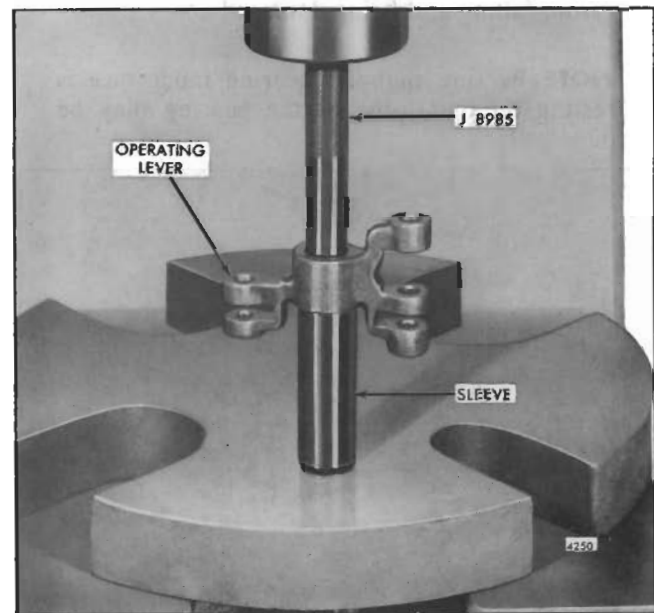

Fig. 16 - Removing Operating Lever Needle Bearings
m. If removal of the needle bearing is necessary, support the control link operating lever on a sleeve and rest the sleeve on the bed of an arbor press. Place tool J 8985 on top of the bearing and under the ram of the press. Then press both bearings out of the lever as shown in Fig. 16.